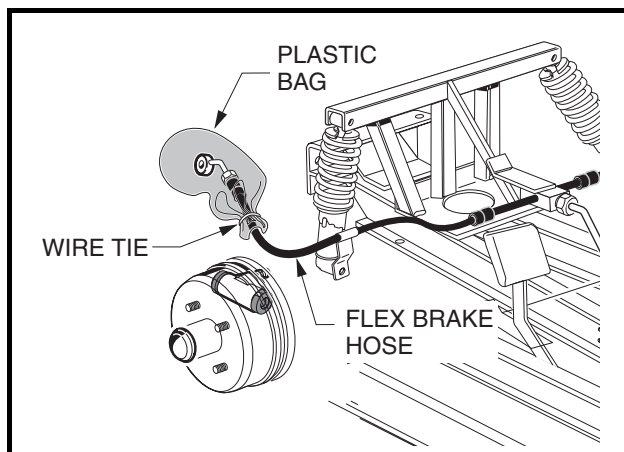

Figure 6-15 Front Brake Hose With Plastic Bag
3. Lift the hose above the brake cluster assembly and place a plastic bag over the hose fitting to keep dirt and debris from entering the hydraulic brake system **(Figure 6-15, Page 6-17)**.
4. Lift the hose above the brake cluster assembly and place a plastic bag over the hose fitting to keep dirt and debris from entering the hydraulic brake system (**Figure 6-15, Page 6-17**).